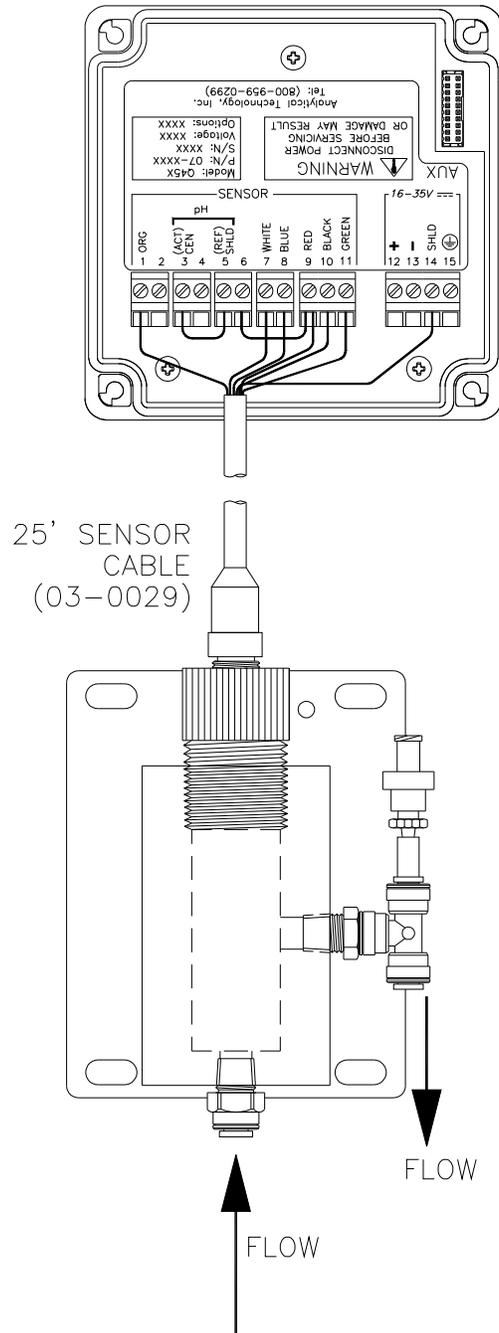

Figure 8 - Loop-Power Connection
1. Use wiring practices that conform to all national, state and local electrical codes. For proper safety as well as stable measuring performance, it is important that the earth ground connection be made to a solid ground point from terminal 15 (Figure 8).
Sensor connections are made in accordance with Figure 8. The sensor cable can be routed into the enclosure through one of cord-grips supplied with the unit. Routing sensor wiring through conduit is only recommended if a junction box is to be used. Some loose cable is needed near the installation point so that the sensor can be inserted and removed easily from the flowcell.